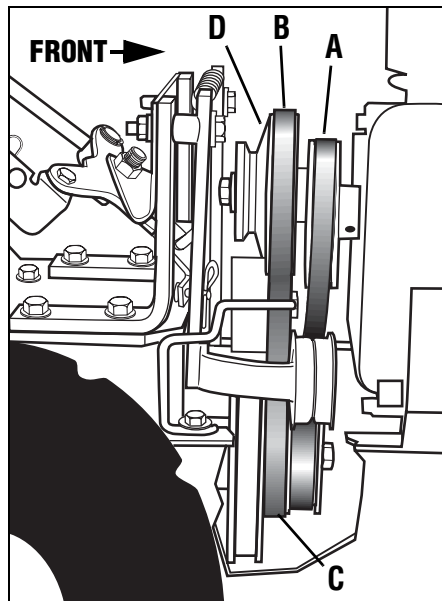

Figure 5-16: Belt drive system.
3. Move the forward drive belt (B, Figure 5-16) completely off the engine forward drive pulley (D).
4. Slip the forward drive belt completely off the transmission drive pulley (C, Figure 5-16) by moving it to the front of the pulley.
2. Slip the forward drive belt down between the rear of the engine forward drive pulley (D, Figure 5-16) and feed the bottom half in between the engine and transmission pulleys (see Figure 5-17). Be sure that the belt is to the inside of the forward idler pulley and forward belt guide (see J and I, Figure 5-12).
and Low) and one reverse speed. The forward engine pulley (D, Figure 5-16) has two grooves for the two forward speeds. The reverse engine pulley (A, Figure 5-16) has one groove for the one reverse speed. The transmission pulley (C, Figure 5-16) has three grooves. The groove closest to the engine is for the reverse belt. The middle groove is for the High speed forward
3. Slip the forward drive belt down and over the front of the transmission pulley (C, Figure 5-16). NOTE: For additional working room, loosen the reverse belt guide (V, Figure 5-12) and twist it out of the way.
4. Put the lower half of the belt into the High speed groove (middle groove) or the Low speed groove (rear-most groove) of the transmission pulley (C, Figure 5-16).
5. Put the upper half of the belt in the High speed groove (groove closest to engine) or the Low speed groove (rear-most groove) of the engine forward drive pulley (D, Figure 5-16).